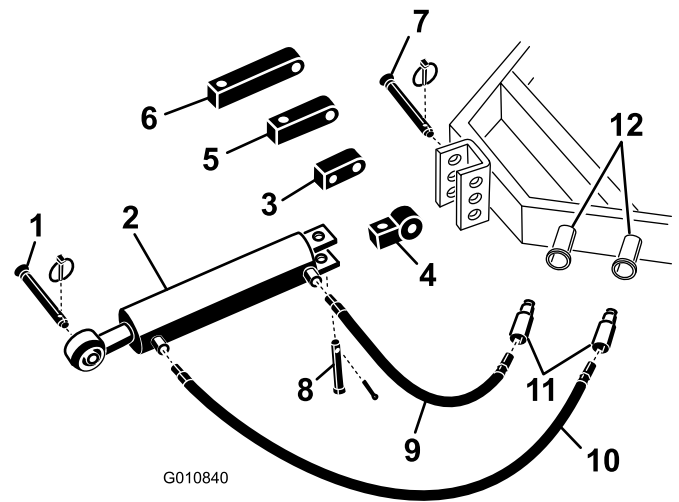

Figure 5
1. Secure the connecting link end of the hydraulic top link to the tractor with the pins supplied with the tractor (Figure 5). Position the hydraulic top link so the rod end is toward the aerator. The cylinder ports should be positioned toward the tractor's auxiliary power hydraulics.
Note: If the hydraulic cylinder must be positioned with the ports facing upward, use the rotational block instead of the standard mounting block to reposition the cylinder (Figure 5).
- A. Remove the cotter pin and pin securing the standard connecting link to the cylinder (Figure 5). Remove the connecting link from the cylinder.
- B. Install the rotational block to the cylinder with the pins previously removed (Figure 5).
2. Connect the 3–1/2 foot long hydraulic hose to the hydraulic top link port which is closest to the aerator (Figure 5). Apply Teflon tape or pipe thread sealant to the hose threads to prevent any leaks.
3. Connect the 2–1/2 foot long hydraulic hose to the hydraulic top link port which is closest to the tractor (Figure 5). Apply Teflon tape or pipe thread sealant to the hose threads to prevent any leaks.
If the hydraulic cylinder does not reach the aerator mounting bracket, use an extension block instead of the standard mounting block to connect the cylinder to the tractor (Figure 5).
- Remove the cotter pin and pin securing the standard connecting link to the cylinder (Figure 5). Remove the connecting link from the cylinder.
- Install the required length extension block to the cylinder with the pins previously removed (Figure 5).